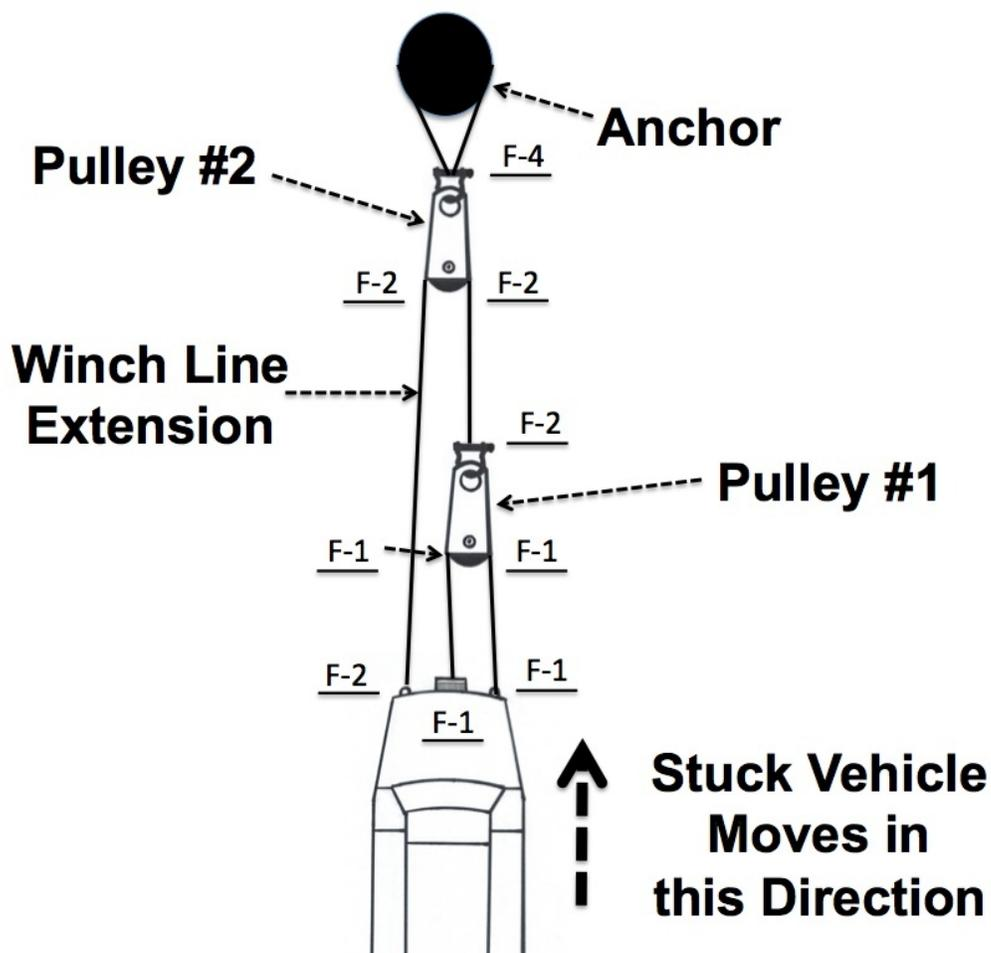

FIGURE 5
Step 3: Much like the first example fill in the blanks as shown in **Figure 5**. You will always have the winch producing “1 FORCE.” That same FORCE travels through the line to the input side of pulley #1. Whatever FORCE enters a pulley, that same FORCE will always exit the pulley. To determine the FORCE at Pulley #1’s Connection, you simply ADD the Input and Output FORCES of the Pulley. You ADD the input and output FORCES of the line because pulleys are force multipliers. Following this rule, the connection point at Pulley #1 will be FORCE 2 ( $1+1=2$ ). That FORCE 2 travels up the winch line extension to the output side of Pulley #2. Since a pulley always has the same force on the input and output side, you also have F-2 at the input side of Pulley #2. To arrive at the total FORCE at Pulley #2’s connection point to the Anchor, you add Pulley #2’s input and output forces ( $2+2$ ). This gives you a FORCE 4 at the anchor’s connection point.
complex winch-rigging set-up generates a 4:1 Mechanical Advantage. This balances with the total F-Value at the anchor point that is also F-4. See **Figure 5**.